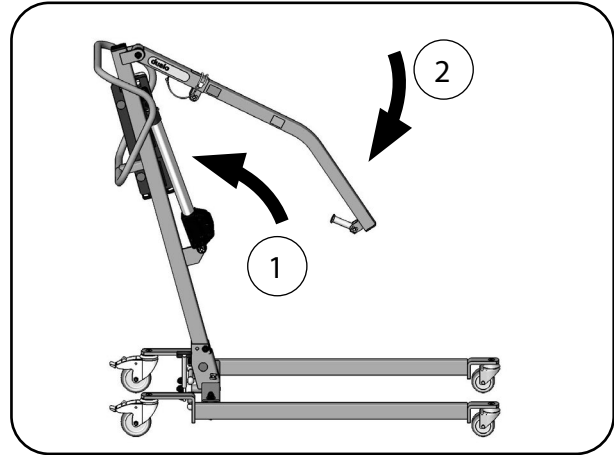
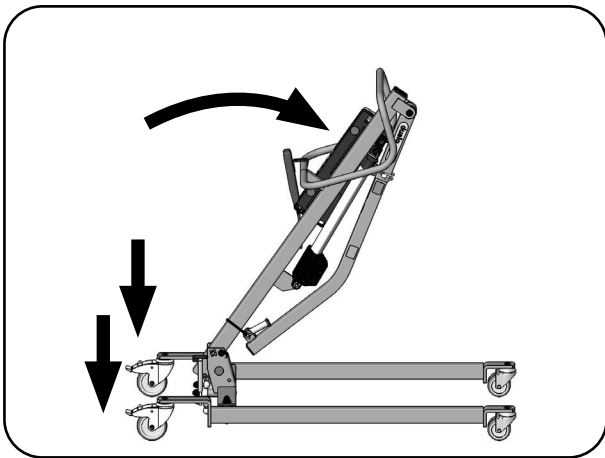

Fig.13.2.02 – Stand mast set upright
Fig.13.2.03 – Folding away the stand mast
1. Brake the two rear castors on the operator side by activating the foot lever (Fig. 13.2.03) (see chapter on Operation, section **Castors**).
3. First swivel the lift drive and then swivel the lifting arm holder or the standard lifting arm towards the stand mast (Fig. 13.2.02). Fix the lift drive and lifting arm holder or standard lifting arm to the stand mast using cable ties or Velcro strip (Fig. 13.2.03).
4. Remove the pin with the locking plate from the stand mast holder and slowly and carefully fold the stand mast forwards (Fig. 13.2.03).